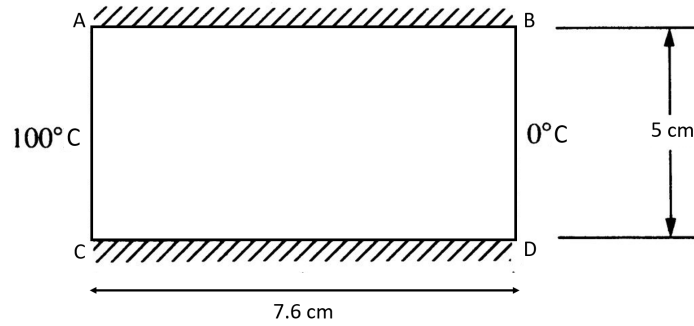

Figure 1
The objective of this study is to perform a thermostructural analysis on a rectangular plate, ABCD, as depicted in Figure 1, measuring  $7.6 \text{ cm} \times 5 \text{ cm}$ . The plate has fixed boundary conditions on the top (AB) and bottom (CD) edges, while heat transfers from  $100^\circ\text{C}$  to  $0^\circ\text{C}$  from the left (AC) to the right (BD) edge.